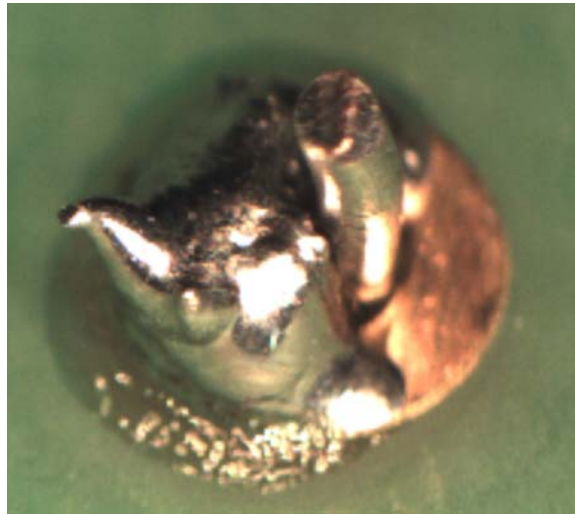

Figure 4 – Cold Joints
- **Cold joints:** Insufficient heating and insufficient flux content in wire can both result in joints where the solder does not wet well. There is a minimum activation temperature below which the flux will not properly remove metal oxides. All the surfaces to be soldered must reach a minimum temperature for intermetallics to form. Putting a drop of molten solder on a piece of copper will not result in a joint unless there is enough heat in the molten solder to heat the copper to that temperature. Also, solder alloys wet and spread better the higher the soldering temperature. This improved wetting is caused by changes in surface tension and intermetallic growth rate. Poor wetting results in lower joint strength, voiding, and in some cases no joint at all (Figure 4).